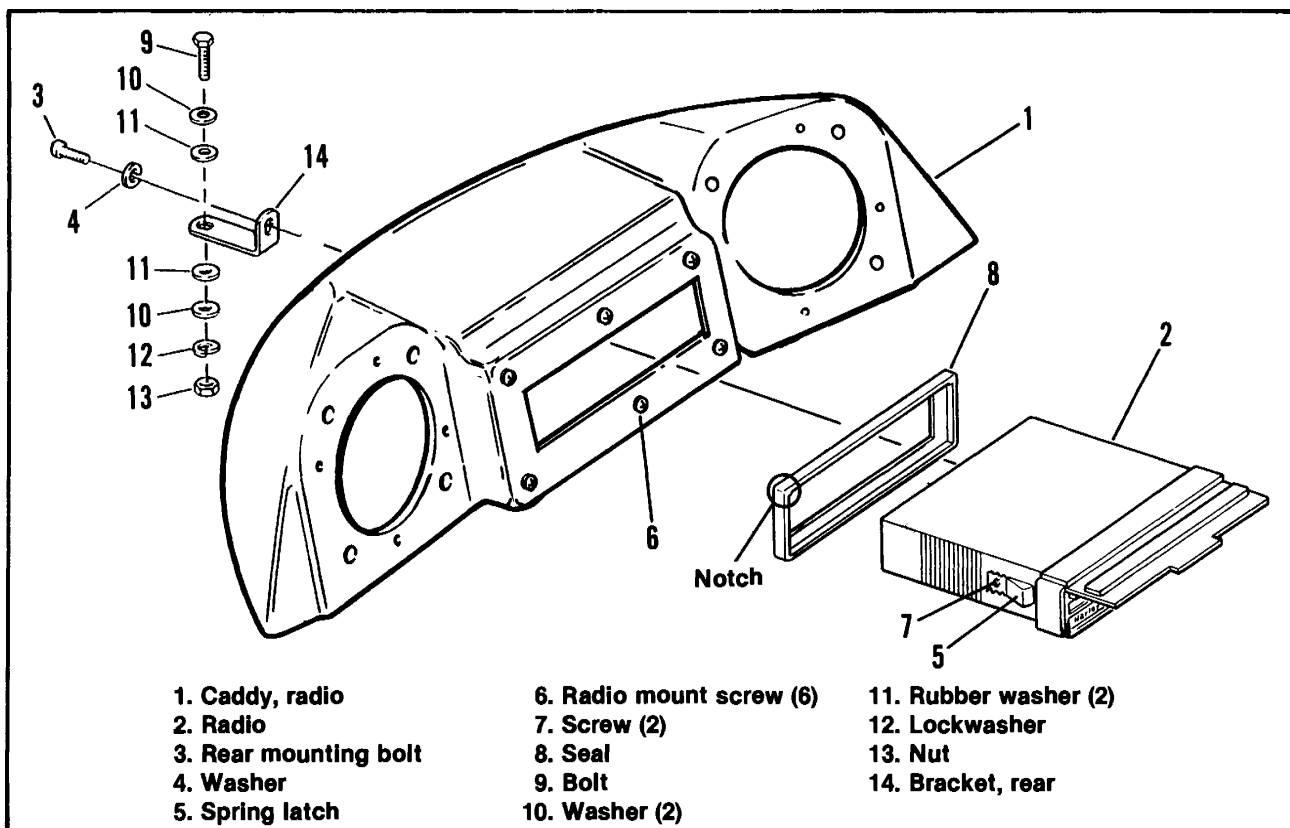

Figure 2-135. Radio Mounting — FLTC
REMOVAL — FLTC (Figure 2-135)
5. See Figure 2-135. Through headlamp opening remove the four nuts that attach the radio caddy (1) to top of fairing.
7. Remove bolt (9), nut (13) and washers (10, 11 and 12).
8. Depress spring latches (5) (one on each side of radio) and push radio out of its mount.
9. Remove rear mounting bolt (3) and washer (4) to remove bracket (14).
INSTALLATION — FLTC (Figure 2-135)